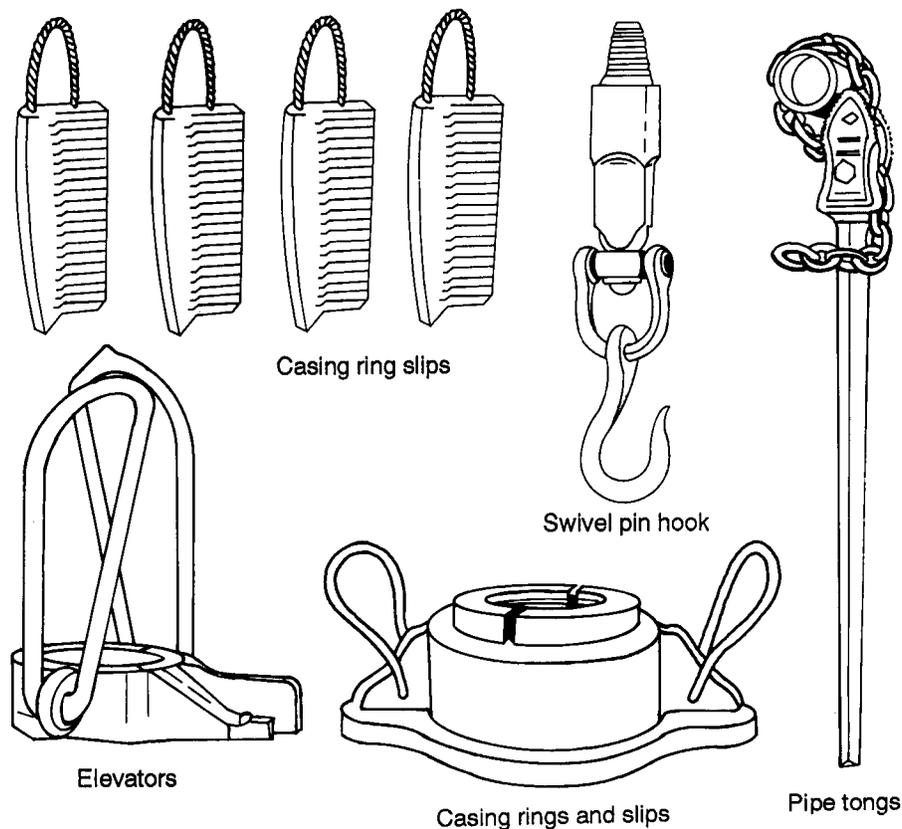

Figure 9-12. Various pieces of well-drilling equipment
(6) Elevator, Sand Line, and Pin Hook (Figure 9-12, page 9-10). Use casing elevators to handle pipe. The device clamps around the pipe directly under the coupling. You can use the sand line with the elevator for lifting one or two half lengths of pipe. For heavier strings of pipe, use the elevator with the swivel hook attached to the rope socket on the drilling line.
(7) Casing Ring and Slips (Figure 9-12). Use a casing ring to suspend the casing at the ground surface and for pulling pipe from the hole using jacks placed under each side of the casing ring. The rings are made of cast steel and are fitted with handles. All slips are cast steel, with sharp teeth properly hardened.
(8) Pipe Tongs (Figure 9-12). Use chain tongs to tighten the 6- and 8-inch drive pipe. Should the pipe turn in the hole while adding a top length, hold the lower pipe with one tong and tighten the top length with another. If friction in the borehole is enough to hold the pipe while